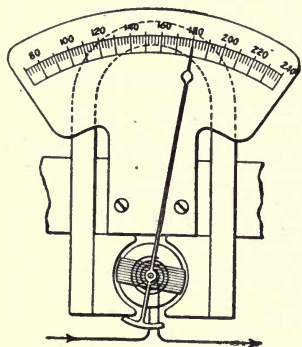

FIG. 80.—Ammeter.
**213. Ammeter.**—An ammeter (Fig. 80) is simply a commercial form of galvanometer. It is constructed in the same way, but only a small fraction of the current to be measured passes through the coil. The greater portion passes through the shunt, which is located in one of the leads coming from the machine. The terminals on the shunt are connected to the terminals on the ammeter by a pair of flexible leads about 10 ft. long. After